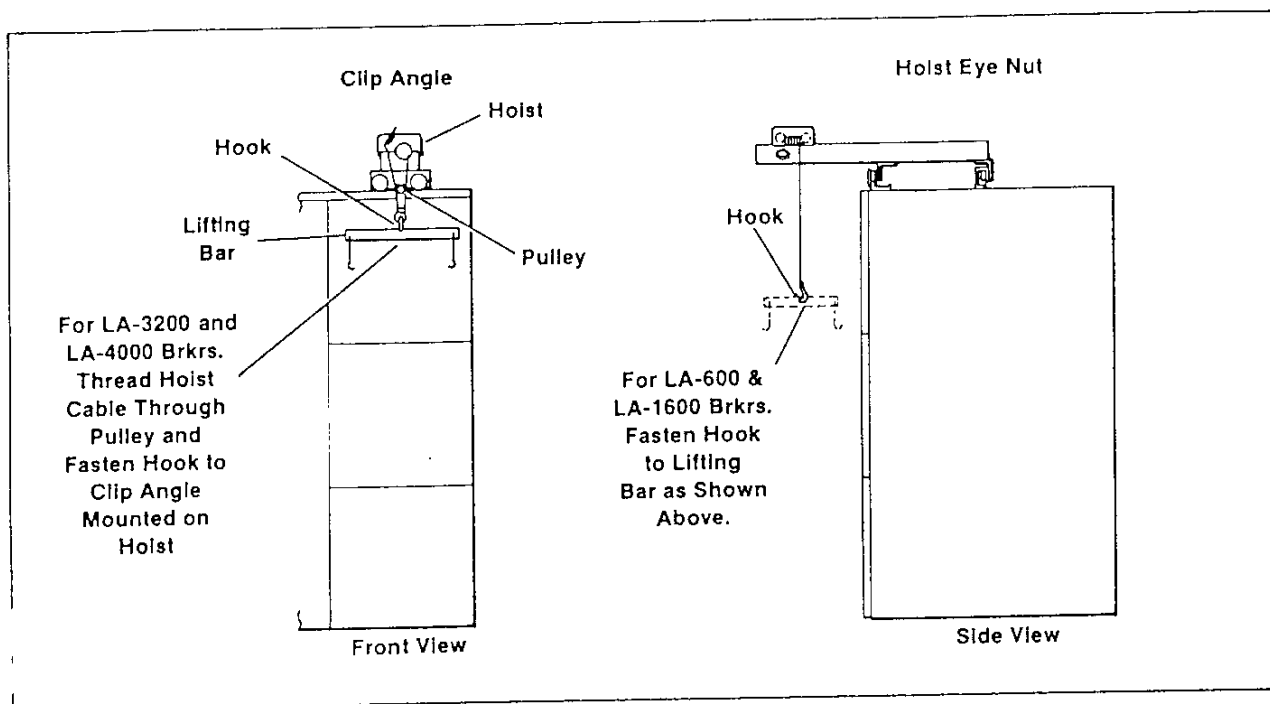
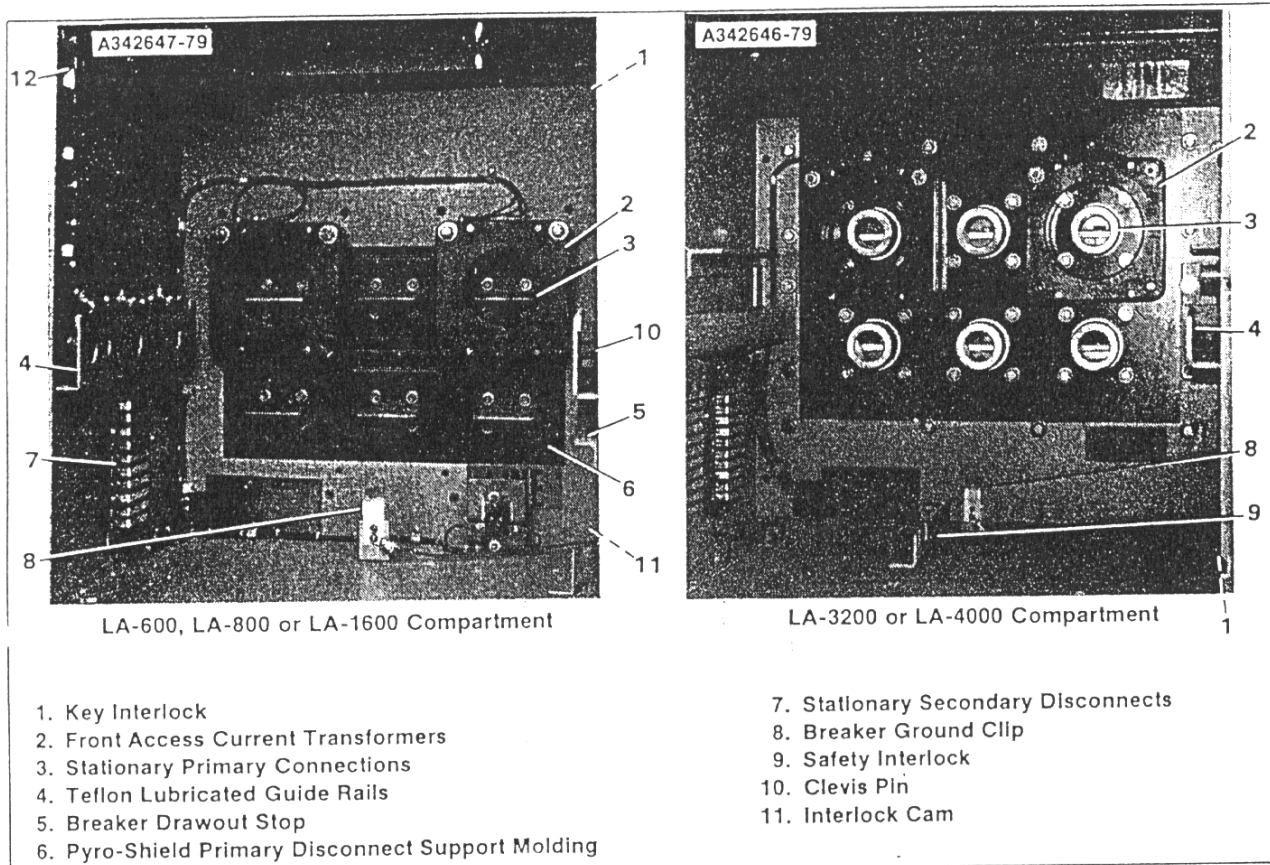
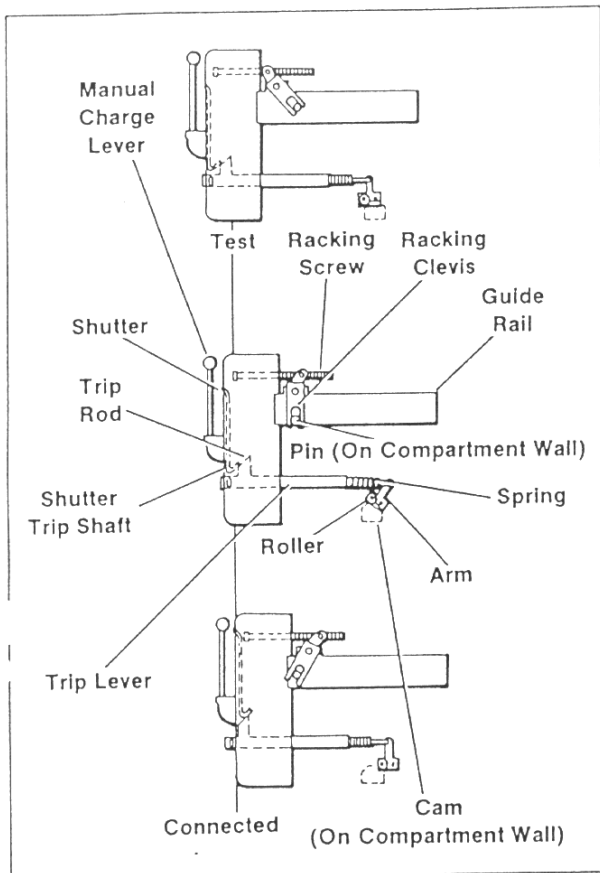

Figure 29. Breaker Hitching Instructions
Figure 30. Circuit Breaker Compartments
Figure 32. Circuit Breaker Positioning Diagram
Current transformers for metering are generally mounted on the stationary primary disconnect studs and are readily accessible for inspection and replacement (see figure 30). In some applications they must be located in the bus compartment.
Place the circuit breaker in front of the cubicle and attach the lifting yoke (furnished with accessories) to the lifting holes provided on the circuit breaker. Then connect the hook from the hoist to the yoke (Figure 29). Insert crank in the hoist eye-nut. Turn the crank to raise the breaker into position with rails (View A, 4, Figure 30). Align breaker and compartment guide rails so the breaker will slide freely. With the breaker in position on the compartment guide rails, use the following sequence to rack the breaker in the CONNECTED position.
2. With racking crank (furnished with accessories), rotate racking screw to move racking clevises to the position shown in Figure 32 where they will engage with pins (10, Figure 30) on the compartment rails.
correct alignment with pins on the compartment rails. (See Figures 30 and 32). Counterclockwise rotation of the racking crank will now move the breaker into the TEST and CONNECTED positions. At TEST and CONNECTED positions, interlock is in its normal horizontal position. By removing racking crank and then raising interlock slide, trip rod returns to its extended position, permitting trip shaft to reset and the breaker may be operated. Between TEST and CONNECTED positions, an interlock cam (11, Figure 30) mounted on the compartment floor, raises the interlock in the breaker. The trip rod and trip shaft are held in the TRIP FREE position so the breaker cannot be closed, even if the interlock slide is raised. (See Figure 32). This prevents movement of a closed breaker into or out of the CONNECTED position.
4. The procedure is the same for withdrawing the breaker from the CONNECTED position, except the racking crank is turned clockwise. A breaker drawout stop (5, Figure 30) angle, mounted on the right hand side below compartment rail, prevents accidental removal of the breaker from the compartment. The angle must be raised to remove breaker from the compartment.
Attach lifting yoke (furnished with accessories) to lifting holes provided on the circuit breaker. Then thread the hoist hook through the pulley on lifting yoke and attach to angle mounted on hoist (Figure 29). Insert hoist crank in the hoist eye nut and turn the hoist crank to raise the breaker to the level of the extension rails and check wheel alignment. (The hoist is optional for indoor switchgear.)
The secondary disconnect (7, Figure 29) mounted on the left hand side of the breaker compartment, contains all the electrical control circuit connections for the circuit breaker. It mates with the secondary disconnect block (refer to the circuit breaker manual) on the circuit breaker.